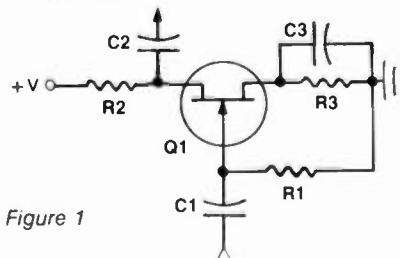

Figure 1
- The terminals of the transistor in figure 1 are named:
- In figure 1, transistor Q1:
- When compared to NPN and PNP transistors, Q1 in figure 1: